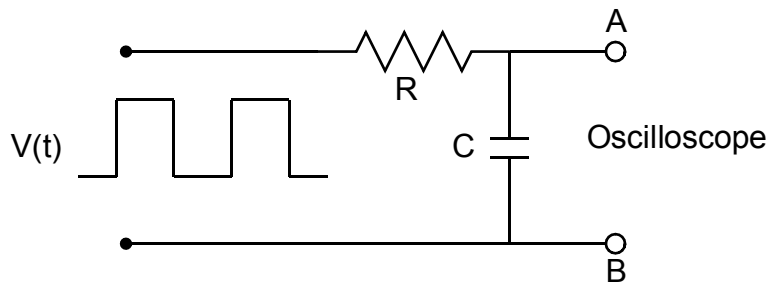

Figure 1: Use a square wave as input.
- Build the circuit shown in Fig. 1 with $R = 1\text{ k}\Omega$ and $C = 100\text{ nF}$.